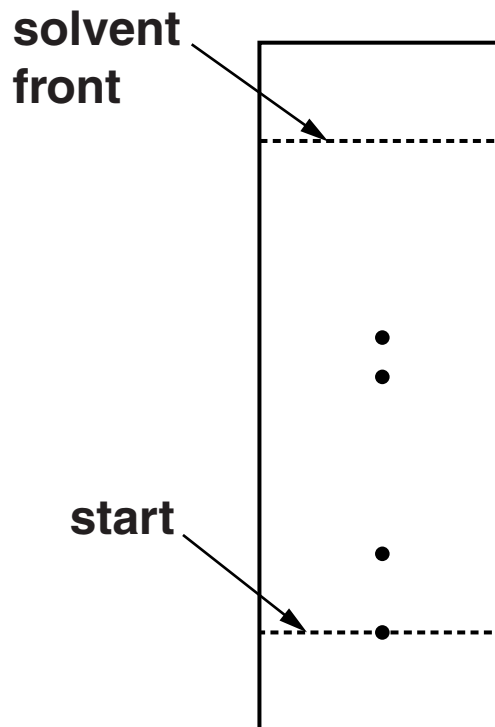

Fig. 3.2
They used thin layer chromatography and obtained a chromatogram, Fig. 3.2, for the food colours present.
- (i) Use the chromatogram, Fig. 3.2, to decide which one of these food colours is definitely present.